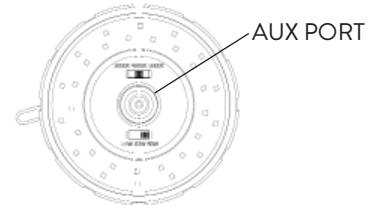

FIG. 6
- The Optional Occupancy Control is available for select models (80W/100W/120W) of the BW/2 Series. The Auxiliary (AUX) Port is underneath the Plug Cover. Unscrew the Plug Cover (Refer to Fig. 3). If needed, use a flathead screwdriver. The AUX Port is at the center of the top of the BW/2 bulb next to the Switches (Fig. 6).